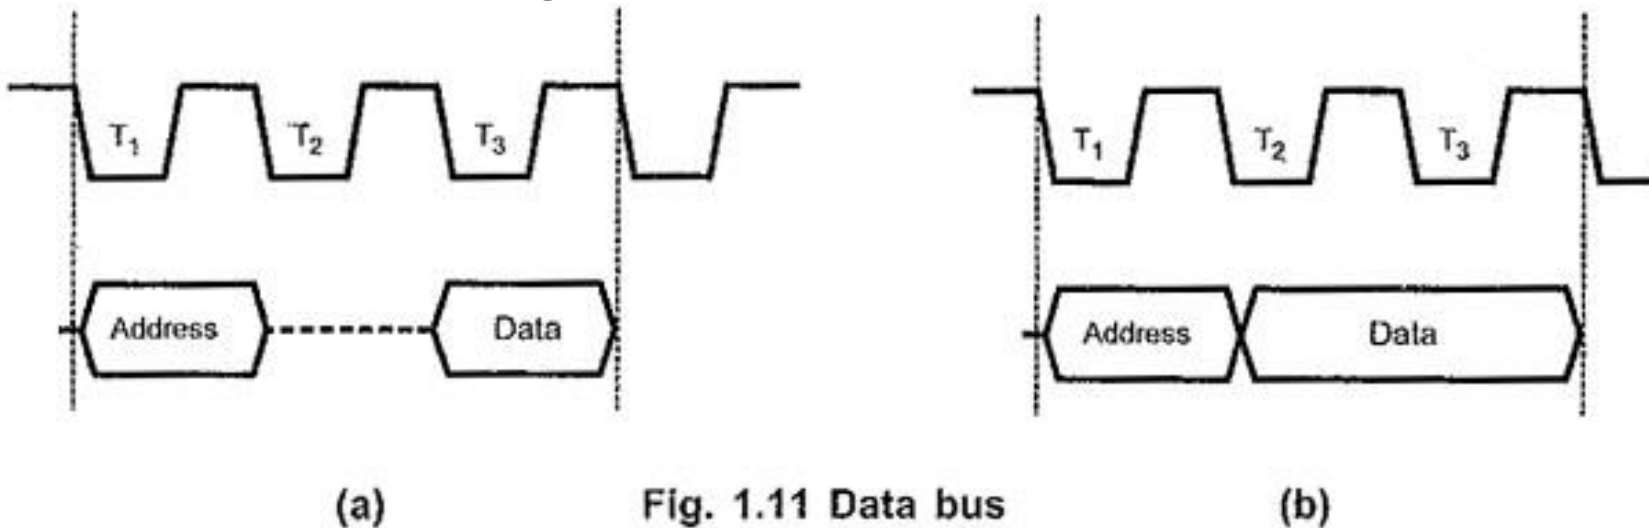

Fig. 1.11 Data bus
- ❖ It is important to note that in **read machine cycle**, data will appear on the data bus during the **later part of the T₂-state**, as shown in the Fig. 1.11.
- ❖ Whereas in **write cycle** data will appear on the data bus at the **beginning of the T₂-state**, as shown in the Fig. 1.11.